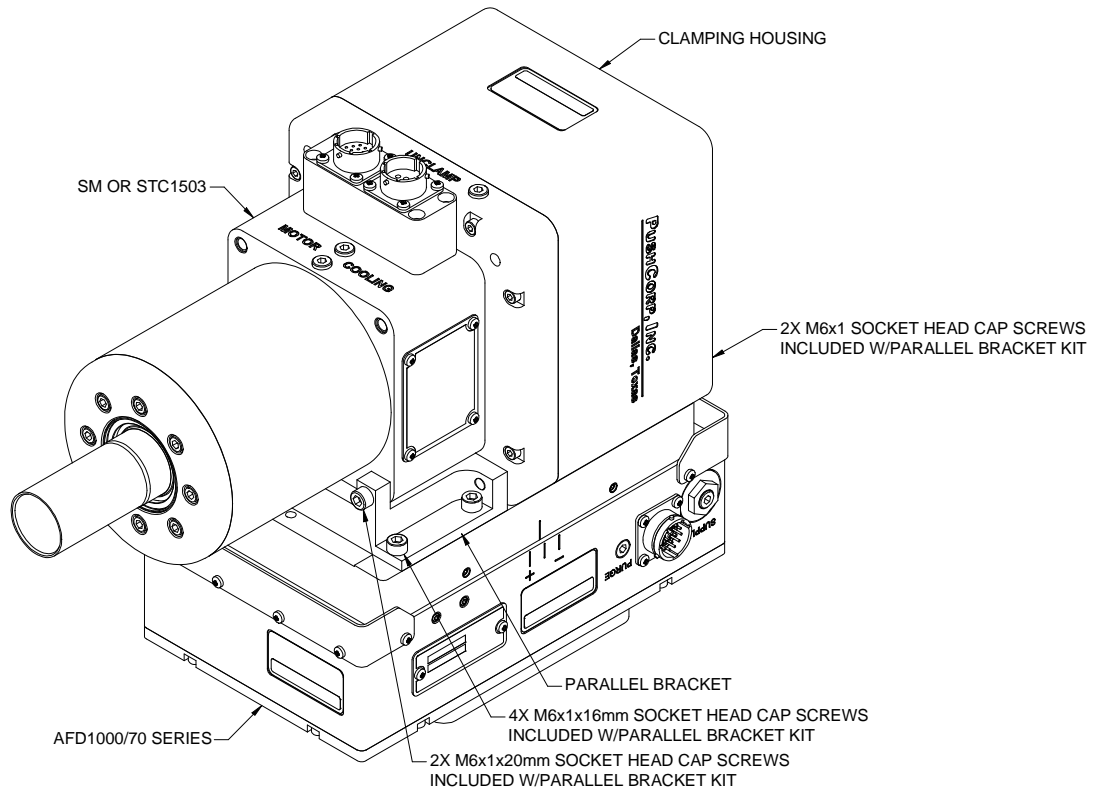

Figure 1. 1503 Parallel-Axis Configuration
The Parallel-Axis configuration is shown in Figure 1, where the 1503 attaches to the AFD Carriage with a Parallel Bracket. The Parallel Bracket is positioned on the Carriage and attached using the four (4) supplied M6x1x20mm Socket Head Cap Screws. The 1503 is then attached to the Parallel Bracket, as shown, with two (2) M6x1x20mm Socket Head Cap Screws into the front of the Motor Housing. Two (2) M6x1 Socket Head Cap Screws pass through the Clamping Housing/Mounting Plate (length is dependent on motor SM1503 = 25mm, STC1503 = 100mm, STC1503-BT30 = 145mm). The fasteners must be tightened to the torque specified in Section 4.0.